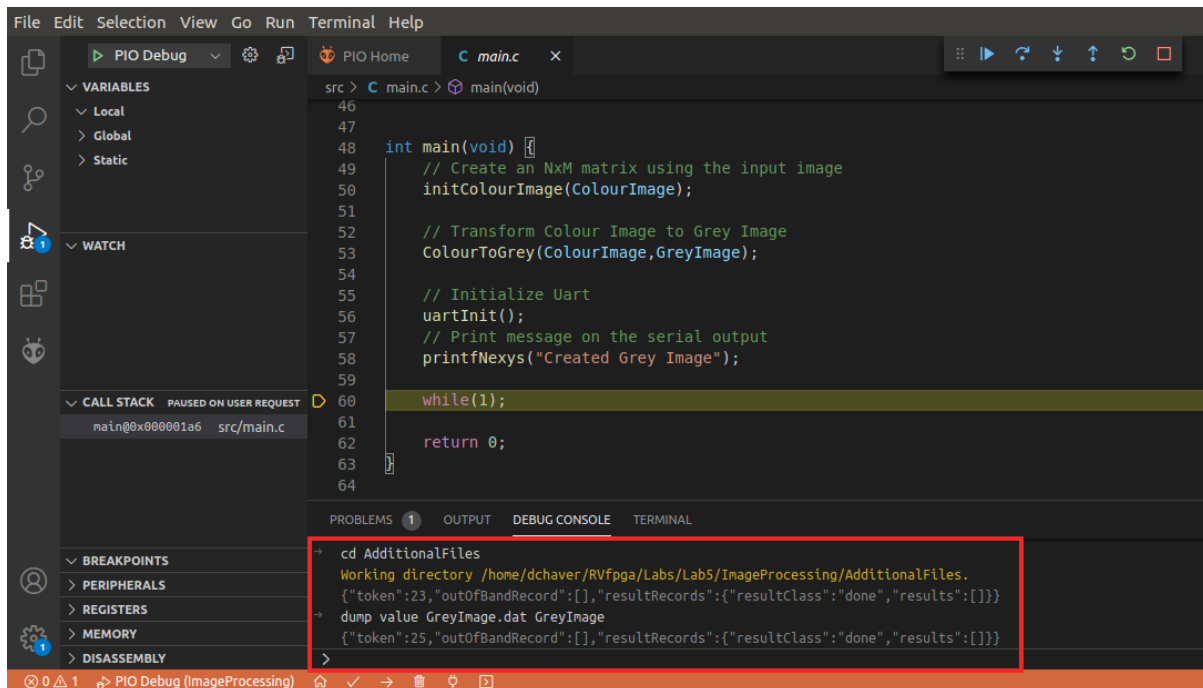

Figure 4. Export the greyscale image to a file
7. Export the grey image (`GreyImage`), by running the following commands in the Debug Console (see Figure 4, which shows the execution of these two commands):